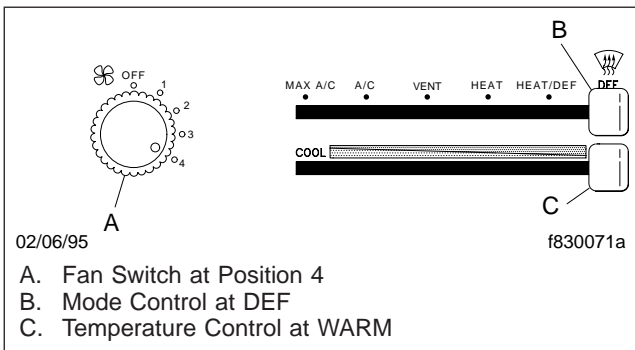

Fig. 4.6, Settings for Defog/Defrost
1. Set the mode control (upper lever) to HEAT, the fan switch to OFF and, if so equipped, the bunk fan switch to OFF before starting the engine. See **Fig. 4.6**.